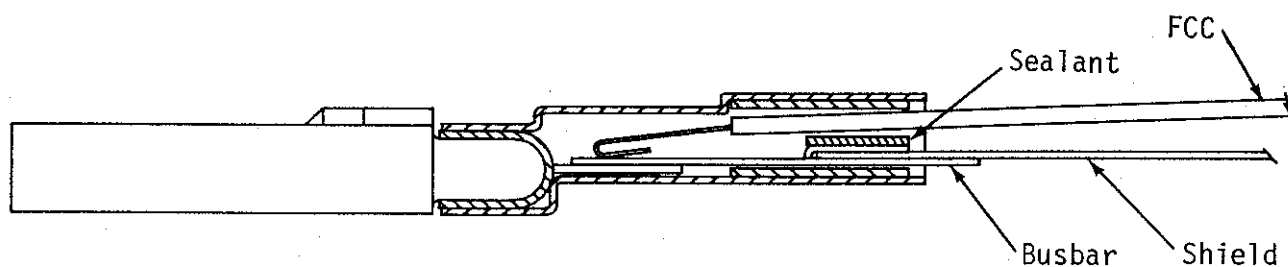

Figure 10. CTA-0055 Sealant Inserted Between FCC and Shield
3. Insert a strip of meltable sealant (P/N CTA-0055) between the FCC and the shield/ busbar assembly (Figure 10).